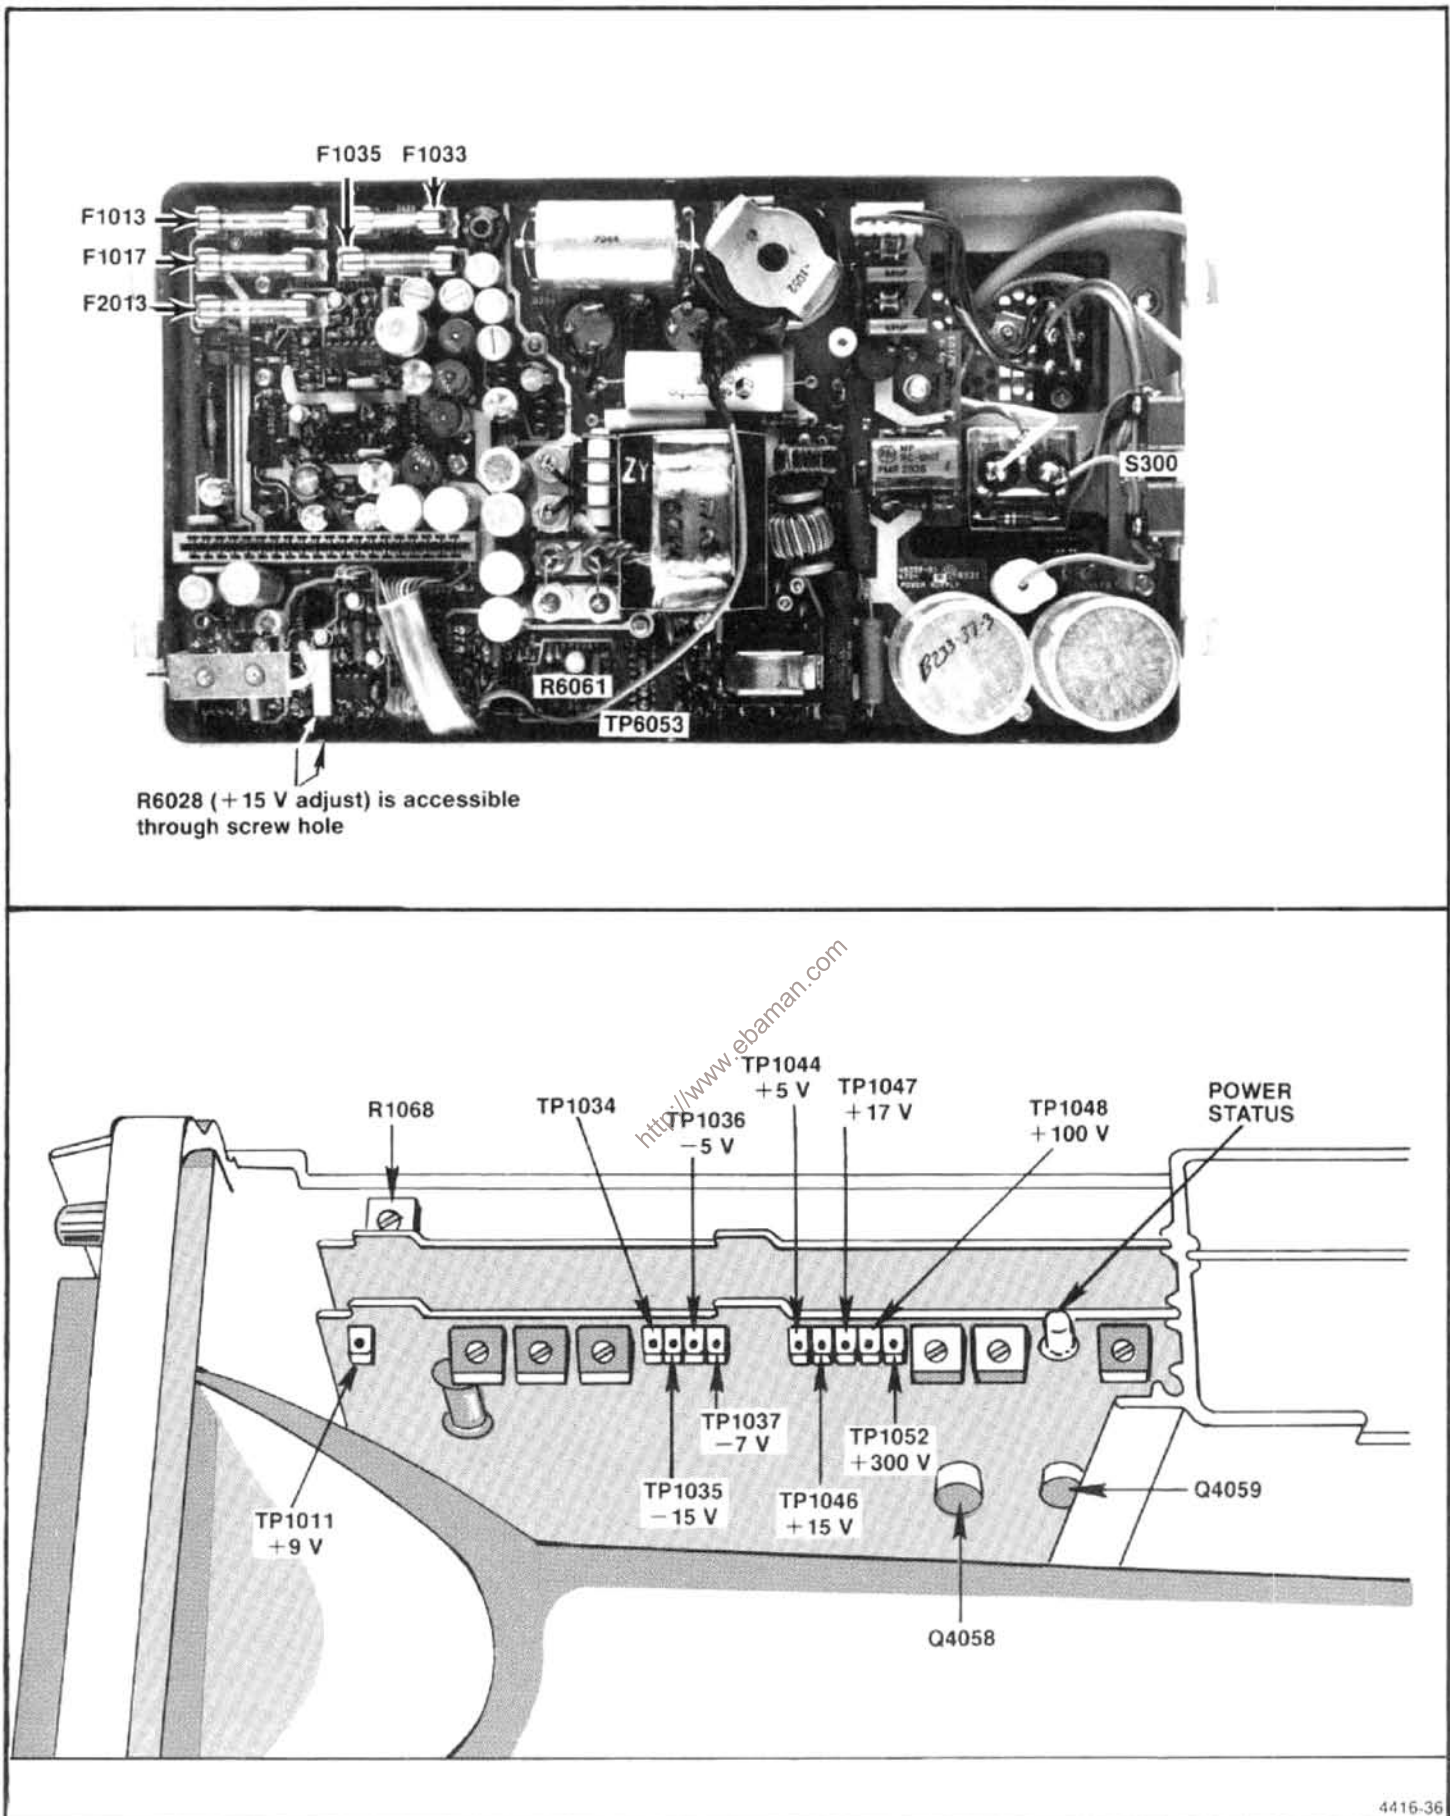

Figure 5-1. Low voltage power supply adjustments and test point locations.
(1) Remove the Power Supply module, as described in the Maintenance section, then remove the Power Supply module cover and disconnect P3045.
(2) Plug the power cord into the power input receptacle and connect it to a suitable power source (115 Vac or 230 Vac, depending on the position of S302).
(3) Use a plastic or insulated tuning tool or equivalent, to insert between the two on/off power switches (S300) to close these switches (Figure 5-1).
(4) Connect a test oscilloscope probe, with a deflection sensitivity of 5 V/div and sweep rate of 10 μ s/div to TP6053 (Figure 5-1). Note the amplitude of the output waveform, of the oscillator U6059, is approximately 10 V.
(5) Adjust R6061 (Oscillator Freq Adj) for a waveform period of 15 μ s (66 kHz).
(6) Reconnect P3045 and replace the Power Supply module cover, then re-install the module on the 494/494P.